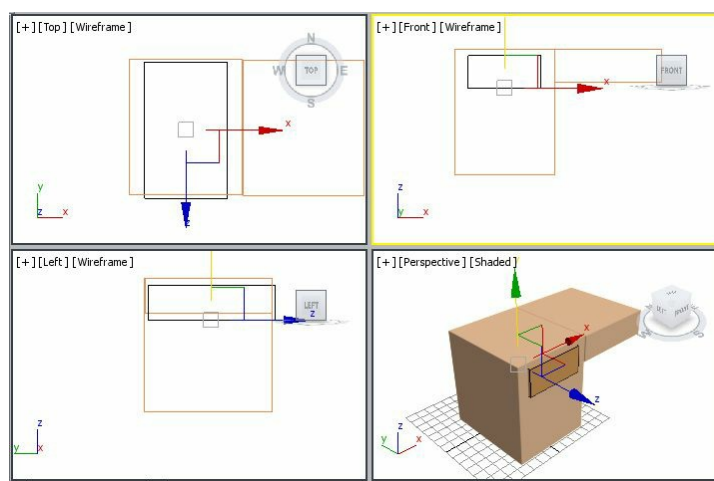

Figure 2-50 Alignment of *drawer001* with left box
4. Align *drawer001* with *left box* in viewports using the **Select and Move** tool, as shown in Figure 2-50.